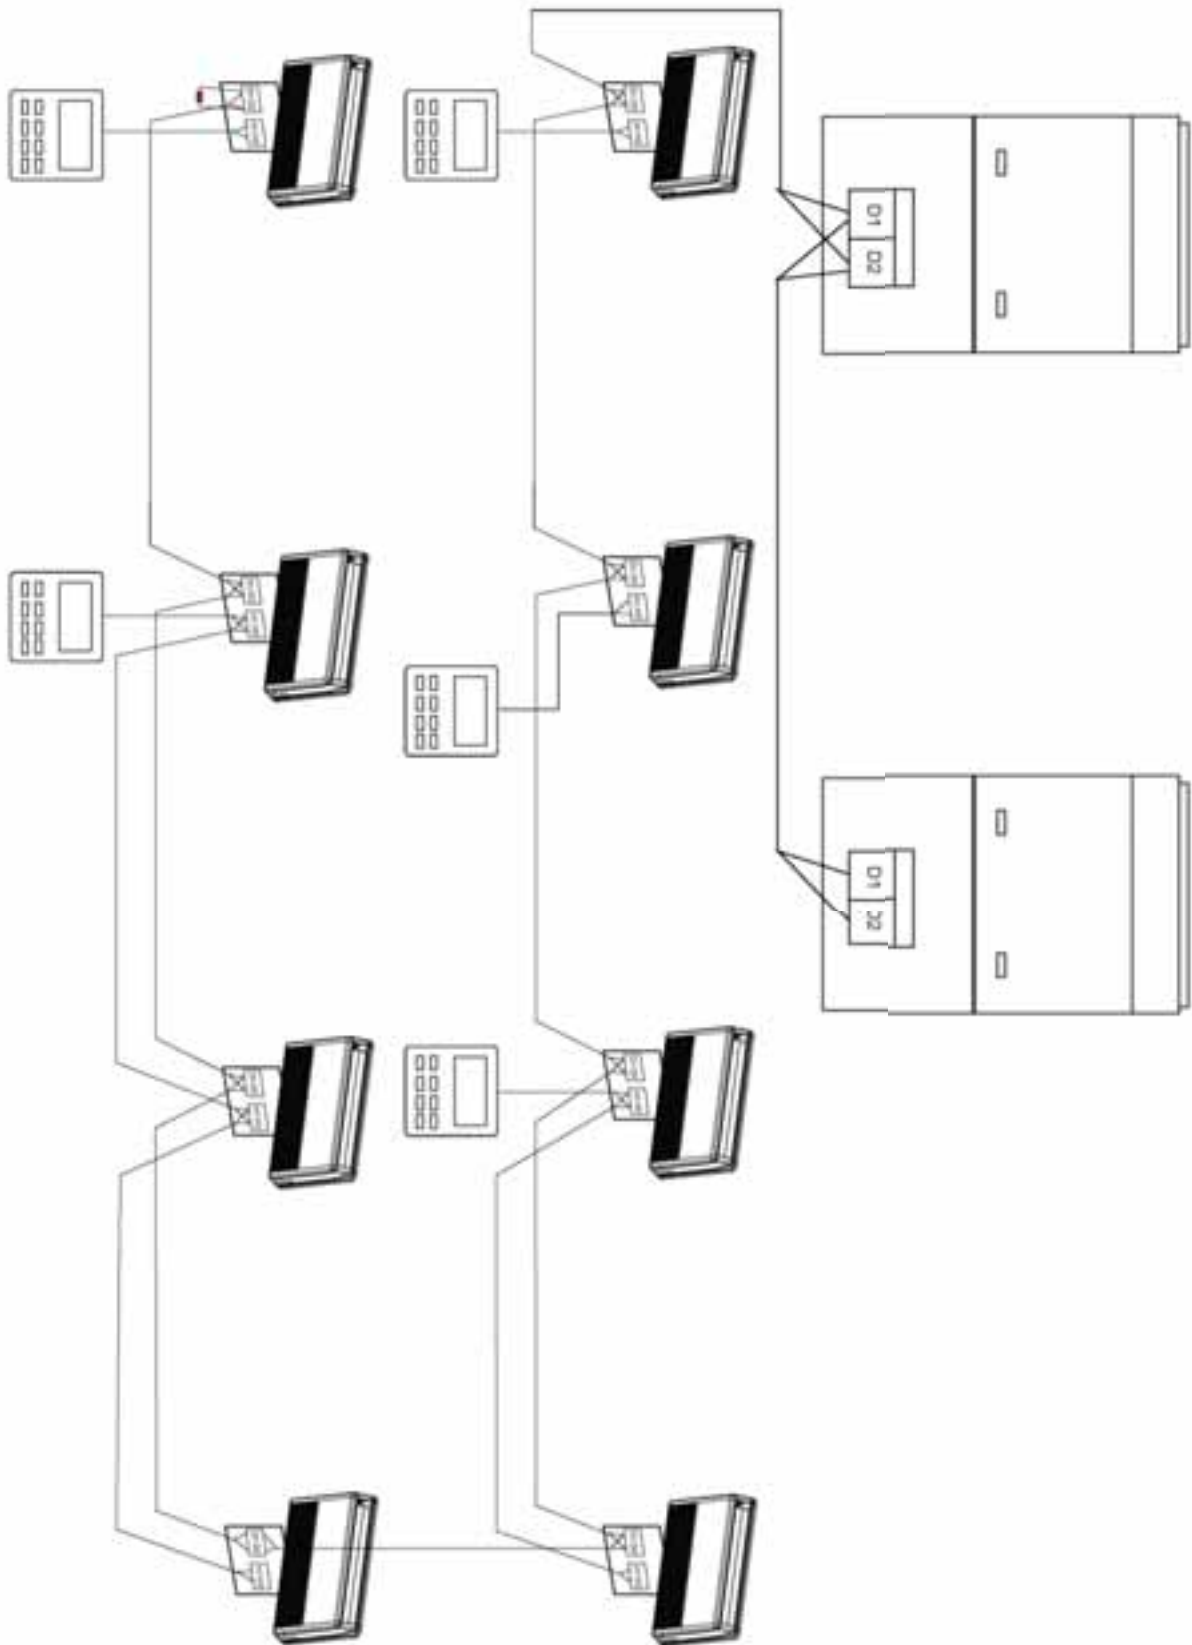

Fig.5.5
- (1) Communication wire of indoor unit to outdoor unit (or indoor unit) is connected to D1, D2.
- (2) Wired controller is connected to H1, H2.
- (3) One indoor unit can connect two wired controllers. One must be set as master one and one as slave.
- (4) One wired controller can control 16 indoor units maximum at the same time. (as shown in Fig. 5.5)